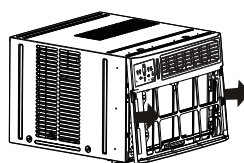

Fig.3
4. Push metal cabinet side to release plastic tabs on each side of front panel (see Fig. 3).